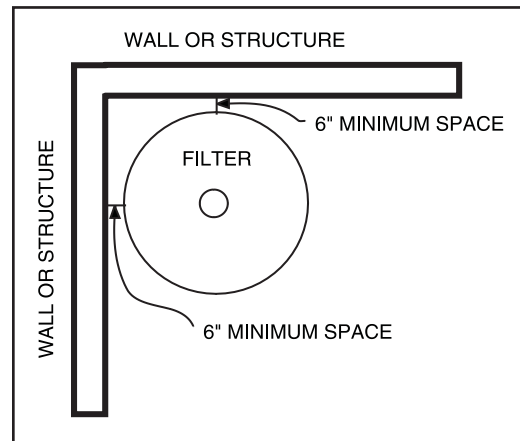

Figure 1: Filter Installation Clearances
3. Install electrical controls (e.g., on/off switches, timers, control systems, etc.) at least five (5) feet from the filter. This will allow you enough room to stand clear of the filter during system start up.
4. Allow sufficient clearance around the filter to permit visual verification that the clamp is properly installed around the tank flanges, see **Figure 1**.